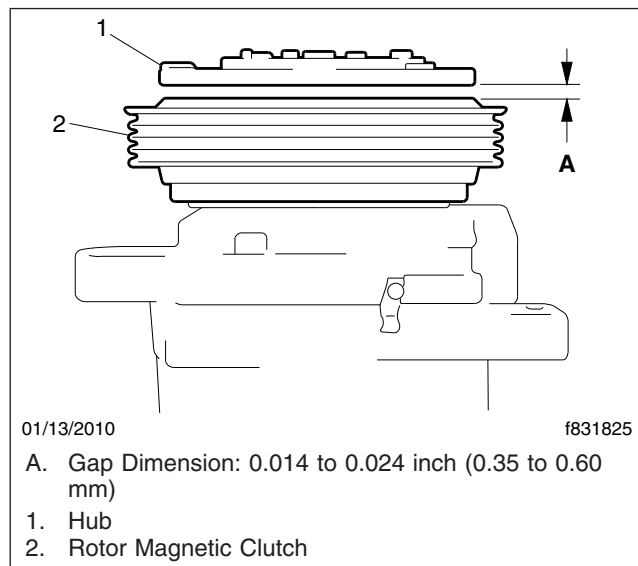

Fig. 1, Hub/Rotor Gap
3. With the belt removed, check to make sure that the rotor (pulley) spins freely. It should not wobble or make contact with the hub when it is spinning. The average air gap between the hub and rotor should be 0.014 to 0.024 inch (0.35 to 0.6 mm). Check the gap at several locations and average the results. See Fig. 1.